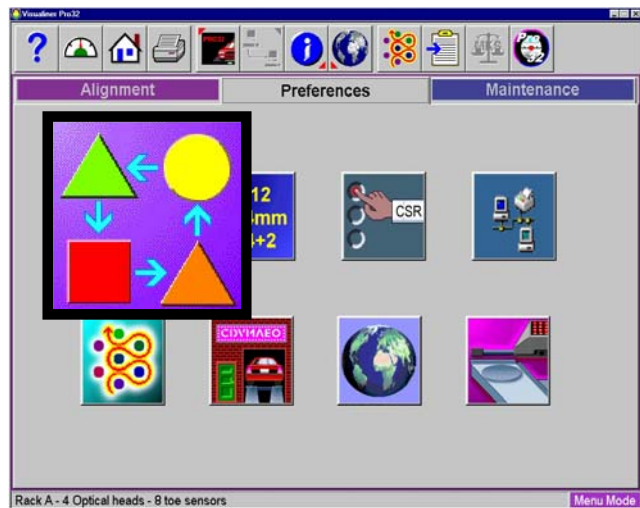

Figure 3-13
2. From the Preference menu select the “USER INTERACTION” icon. (Figure 3-13)